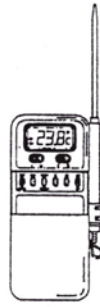

Figure 1
3. Place your thumb on the middle of the front of the unit and slide the top cover down to expose the controls (see Fig. 1).
1. Place your thumb on the middle of the front of the unit and slide the top cover down to expose the controls (see Fig. 1).